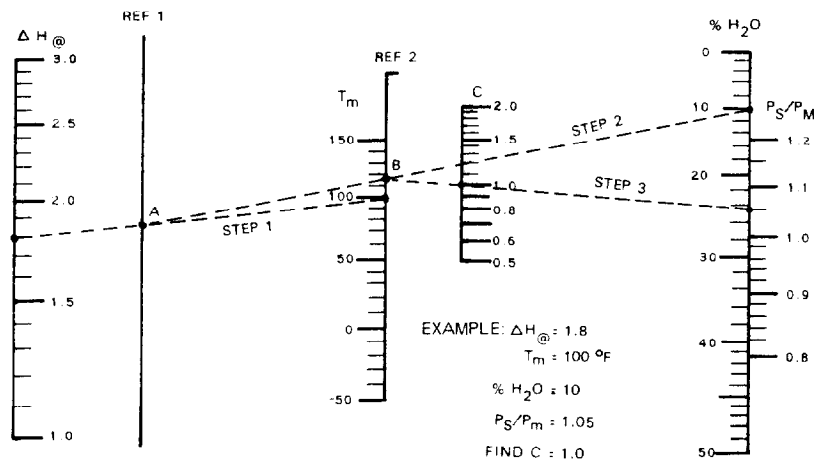

Figure 22. Nomograph for correction factor C.
The correction factor nomograph (Figure 22) and the operating nomograph (Figure 23) have been designed for use with the sampling train as aids for rapid isokinetic sampling rate adjustments and for selection of a convenient nozzle size. To determine the correction factor, C , on the nomograph, the following information is first required:
To obtain correction factor, C (Figure 22):
1. C factor. This is obtained from the correction-factor nomograph (Figure 22).